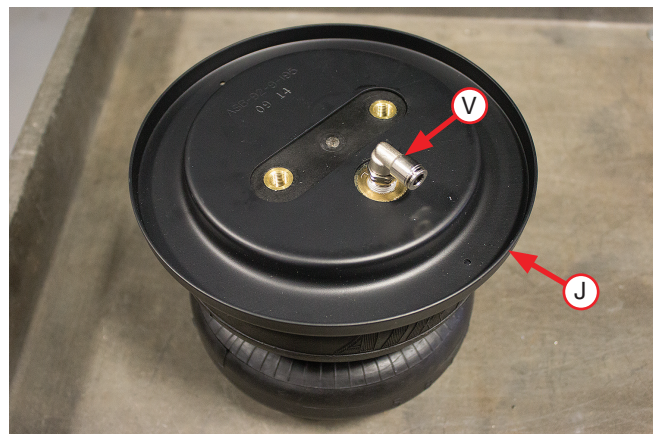

Fig. 7
1. Install the swivel elbow fitting (V) into the top of the air spring finger-tight. Tighten the swivel fitting an additional one and a half turns. Place a roll plate (J) on top of the air spring (Fig. 7).